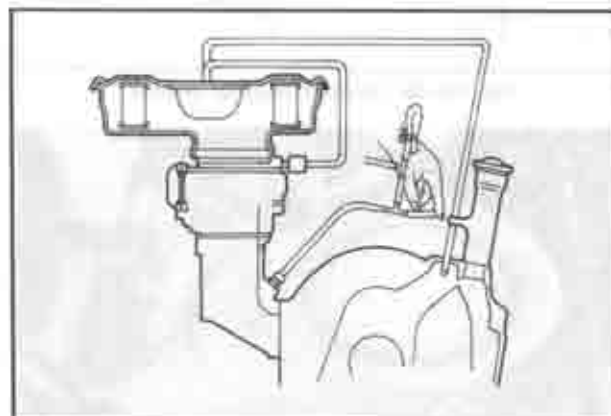

Fig. 1A-33 Checking ventilation valve
3. Hold a finger over the end of the ventilation hose and pinch off the evaporative line hose as shown in Fig. 1A-33. The engine should roughen and engine speed should drop.